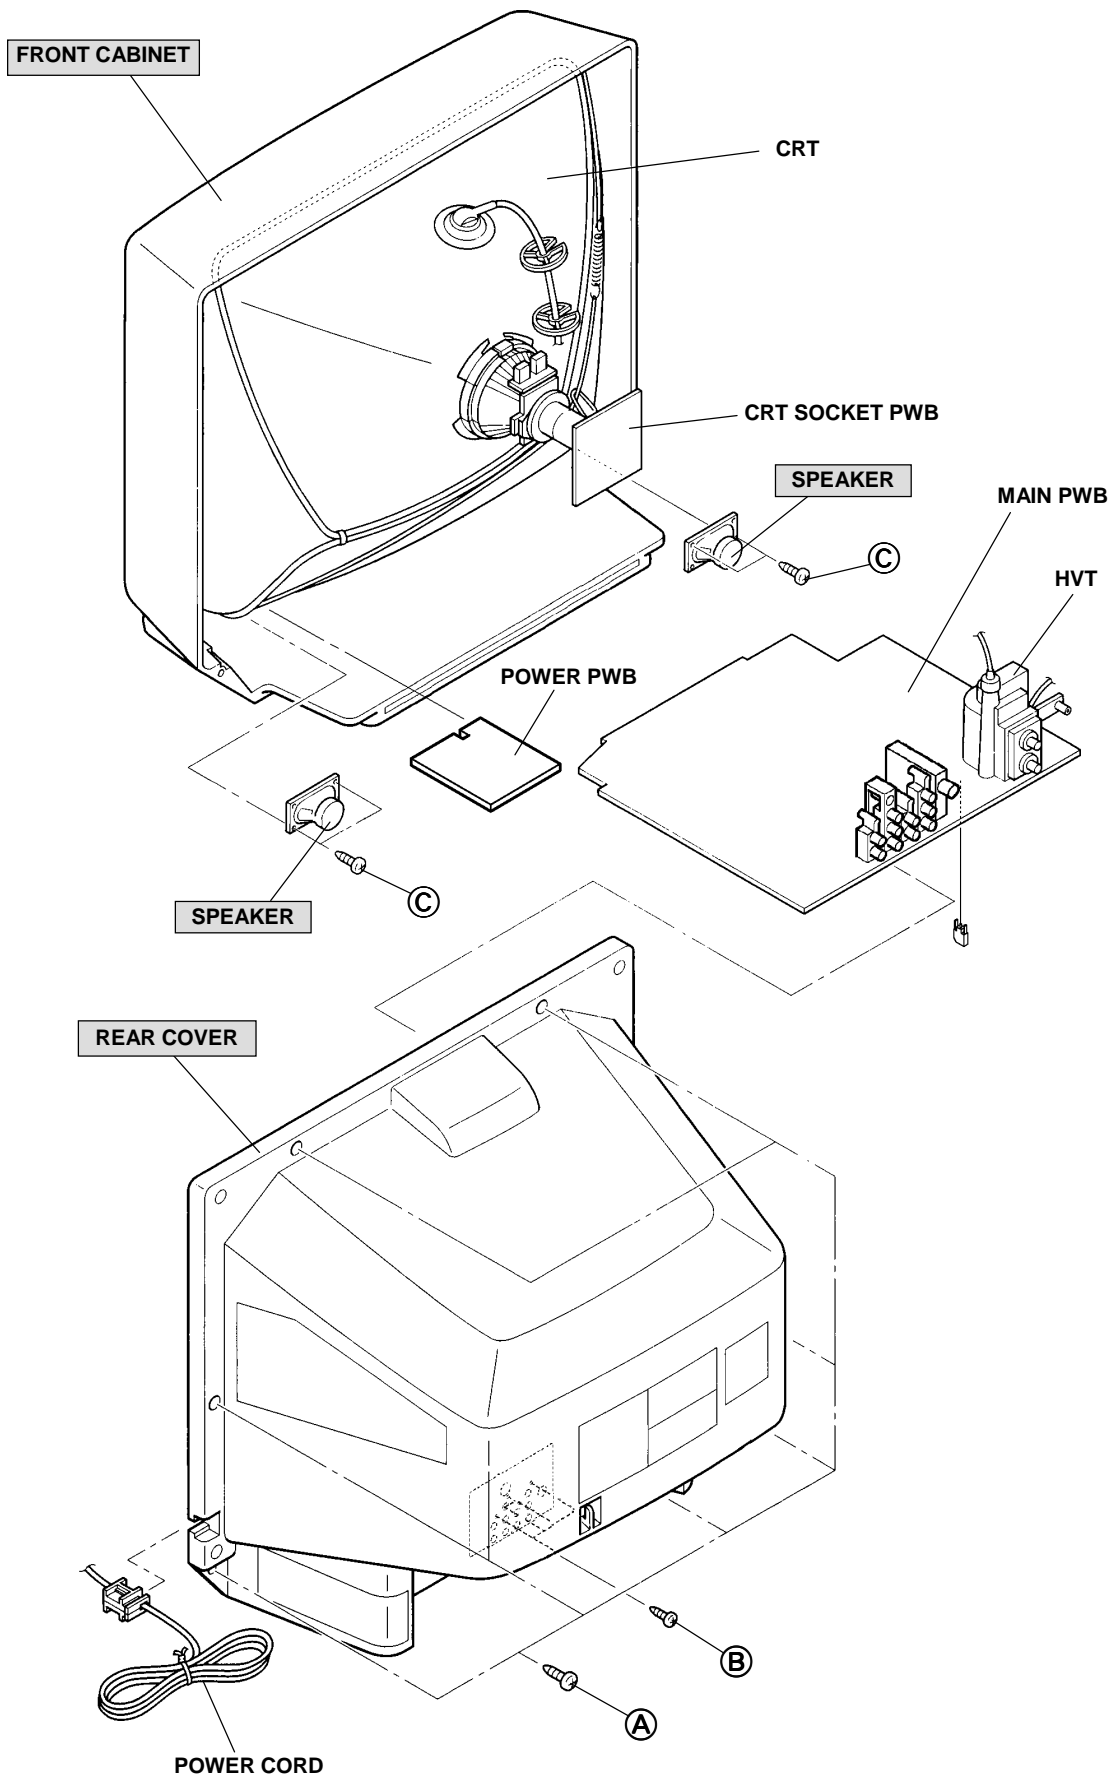

Fig.1
2. As shown in the Fig.1, remove the **7** screws marked **(A)** .
3. As shown in Fig.1, remove the **4** screws marked **(B)** .
1. As shown in Fig. 1, removing the **2** screws marked **(C)** , then remove the speaker.
<p>(4) System constant check and setting</p> <ol style="list-style-type: none"> <li>1) Press SLEEP TIMER key and, while the indication of "SLEEP TIMER 0 MIN." is being displayed, press DISPLAY key and VIDEO STATUS key on the remote control unit simultaneously.</li> <li>2) The SERVICE MENU screen of Fig.1 is displayed.</li> <li>3) While the SERVICE MENU is displayed, again simultaneously press the DISPLAY and VIDEO STATUS keys to display the Fig.2 SYSTEM CONSTANT screen.</li> <li>4) Refer to the SYSTEM CONSTANT table and check the setting items. Where these differ, select the setting item with the UP/DOWN (▲/▼) key and adjust the setting with the LEFT/RIGHT (◀/▶) keys.</li> <li>5) After adjusting, release the LEFT/RIGHT(◀/▶) key to store the setting value.</li> <li>6) Press the EXIT key twice to return the normal screen.</li> </ol>	 <p style="text-align: center;">Fig.1</p>
<p>(7) SERVICE MENU setting Verify what to set in the SERVICE MENU, and set whatever is necessary.(Fig.1) Refer to the SERVICE ADJUSTMENT for setting.</p>